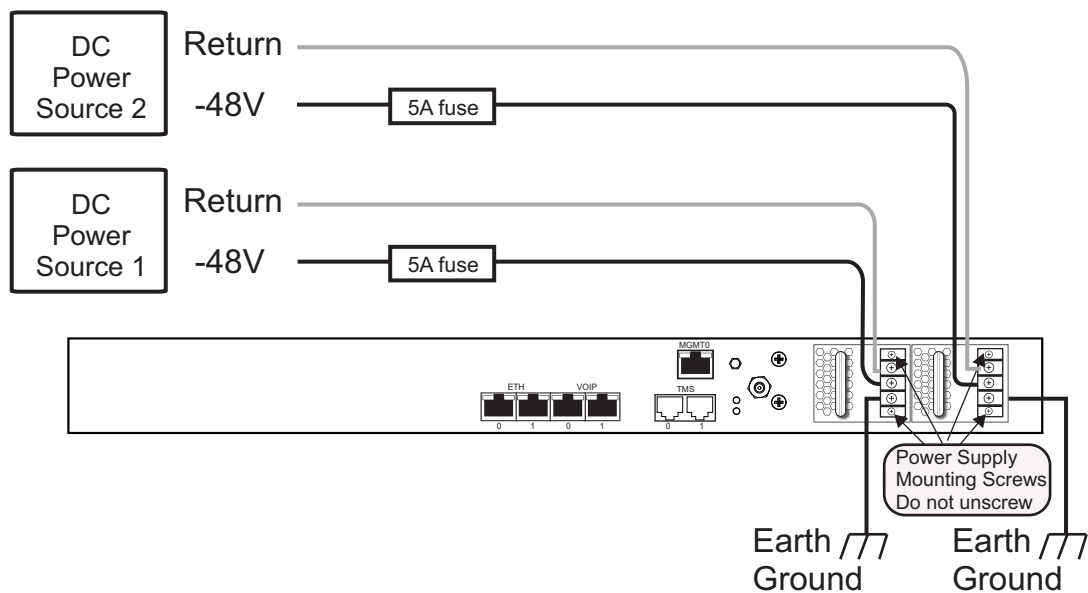

Figure 4.5 DC Power Connection
1. Connect one wire from the positive terminal of the TSBC-HW-TRANS to the return side of DC power source one, as shown in Figure 4.5 on page 30.